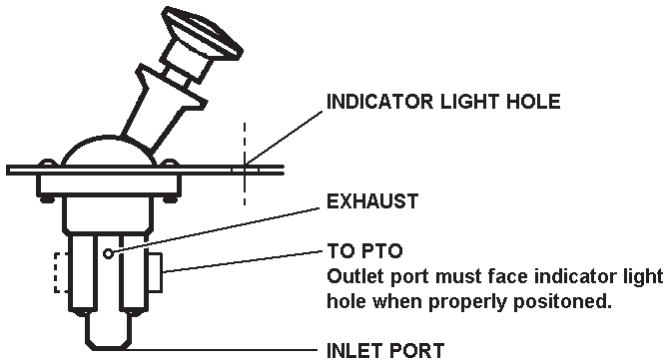

FIGURE 7.1
- (b) Install fittings from PTO kit to PTO shifter valve. Install nylon tubing to fittings on valve. See Figure 7.1.